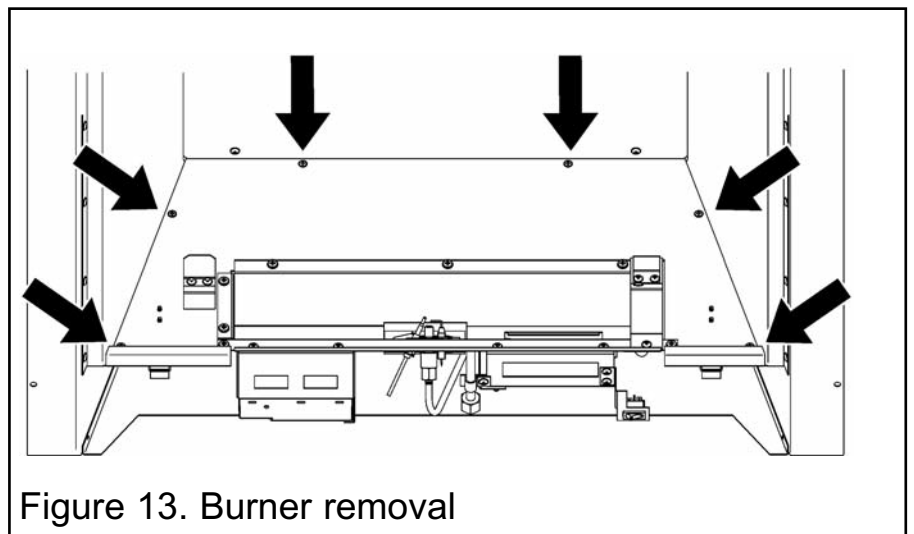

Figure 13. Burner removal
1. Detach the burner unit and support tray from the convection box by removing six screws (See figure 13). Lift the burner unit clear.